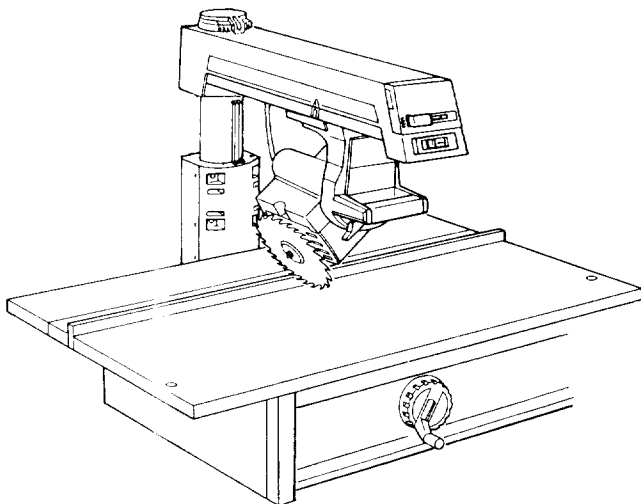

Fig. 62
15. Unlock the *bevel lock* and move the *motor* to the 45° bevel position. (Figure 62)